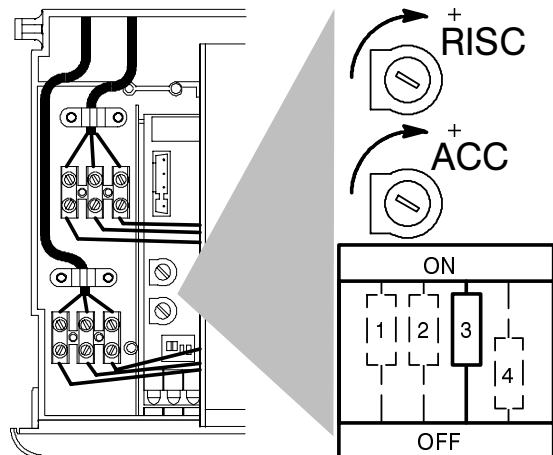

Fig. 7.7
- 14 Check the ignition gas pressure by setting dip-switch "3" (Fig. 7.7) to the OFF position. Compare the value on the gauge with the value indicated in the sections 4.5 or 4.6 (gas pressures at the burner), accordingly with the model of boiler installed.
To adjust the ignition gas pressure, set dip-switch "3" (Fig. 7.7) to the OFF position and adjust potentiometer marked "ACC" with a screwdriver until correct ignition gas pressure is obtained.
With the boiler operating in c.h. mode, use a suitable screwdriver to turn the adjustment potentiometer marked "RISC" (Fig. 7.7). Rotating the potentiometer anti-clockwise reduces the maximum supply current to the gas modulator device, and thus reduces the gas pressure to the burner.